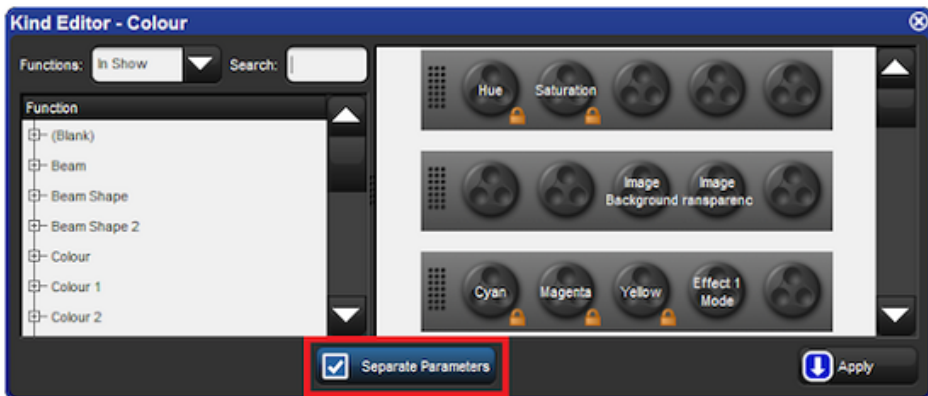

Figure 6.16. A Kind Editor for the Colour kind with seperate parameters turned on.
2. Toggle separating parameters on and off by pressing the parameter type buttons; see *Figure 6.16, "A Kind Editor for the Colour kind with seperate parameters turned on."*